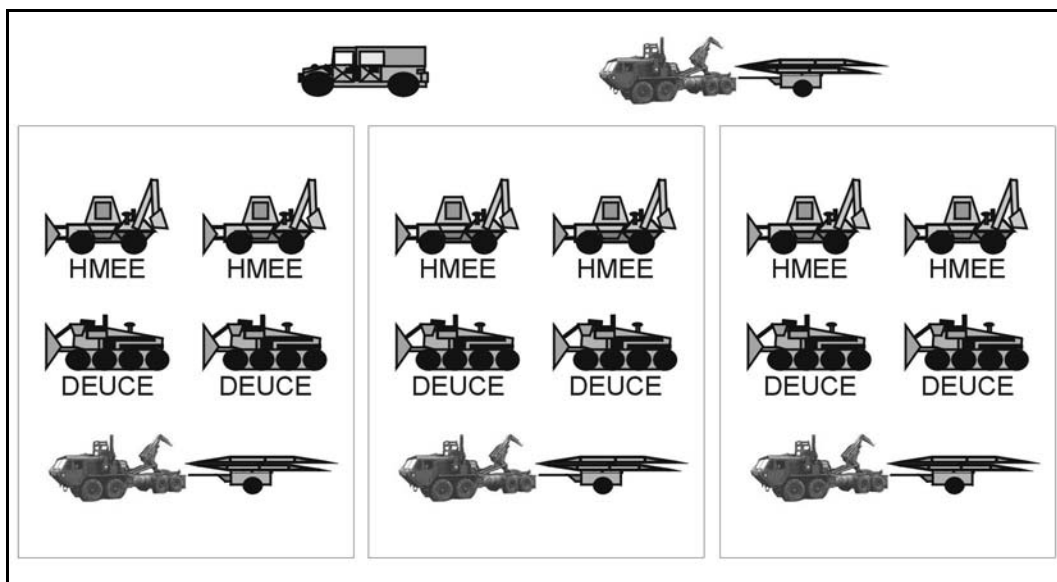

Figure 8-19. Mobility support platoon.
b. **Mobility Support Platoon.** The mobility support platoon consists of a platoon headquarters section and three equipment-based mobility sections (Figure 8-19, page 8-28), equipped with light assault bridges, light earthmovers (deployable universal combat earthmovers [DEUCES]), and high mobility engineer excavators (HMEEs). Unlike the combat mobility platoon, it is not organized to operate independently during offensive operations. The mobility support platoon provides the commander with specialized equipment capabilities to weight the main effort and to perform specialized mobility tasks. Each section is structured to provide equipment augmentation, focused on reducing enemy obstacles and fortifications, to each of the three combat mobility platoons. Each section has gap-crossing, obstacle-reduction, special-tool, and heavy-blade capabilities. The mobility support platoon provides a limited capability for countermobility, survivability, and sustainment operations.